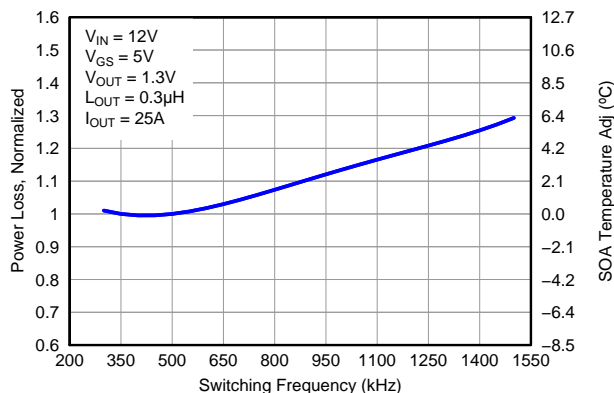

Figure 6. Normalized Power Loss vs. Switching Frequency
- Normalized Power Loss for switching frequency ≈ 1.08 (Figure 6)
- SOA adjustment for switching frequency $\approx 1.8^\circ\text{C}$ (Figure 6)